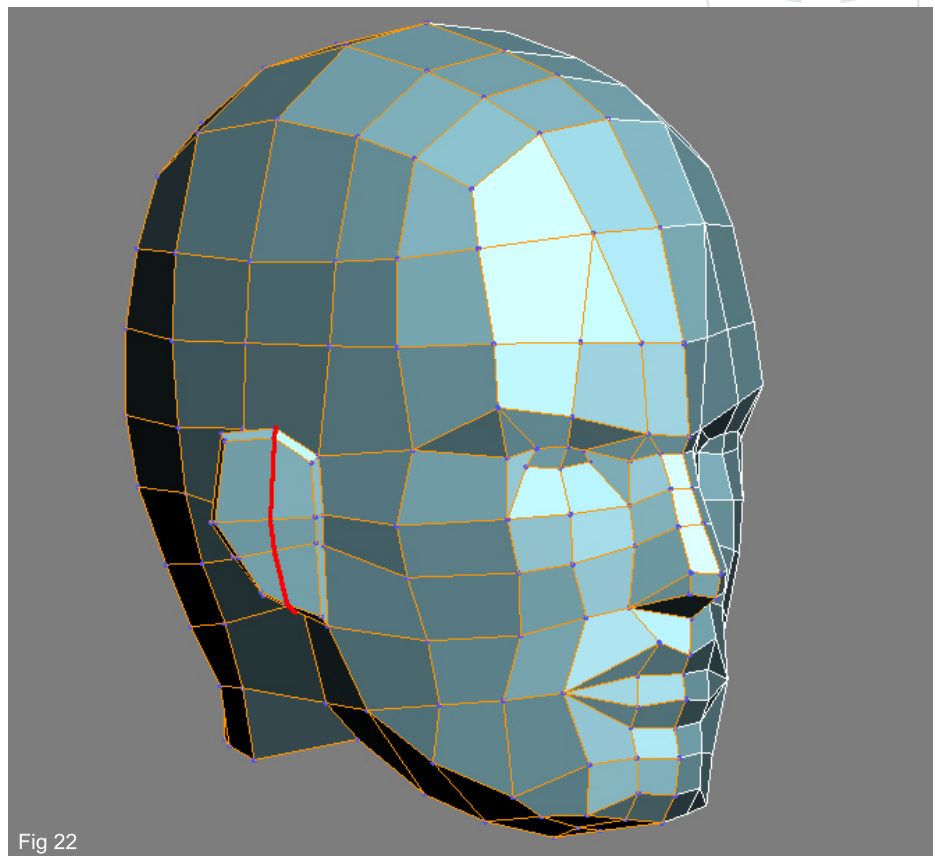

Fig 22
22. We can now attach the ear to the side of the head using the same technique by first moving it into position, snapping the verts together and then welding them up. To give the ear a better shape scale the outward faces down a little and then add in a vertical subdivision using the “Ring/Connect” tools and move the extra verts to form more of a curve to the outside (Fig22).